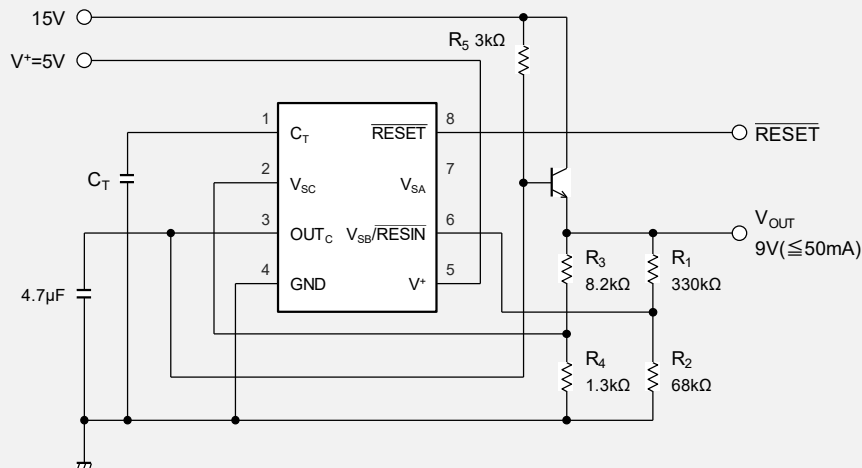

Fig. 11 Reference voltage output and voltage drop monitoring (e.g. 9V reference output, 5V, 9V monitoring)
- The reference voltage V_{OUT} and its detection voltage are calculated as the following formula. In case of resistor value In Fig.11, the reference voltage V_{OUT} is about 9.0V, the detection voltage (V_{OUT} falling) is about 7.1V and the detection voltage (V_{OUT} rising) is about 7.3V